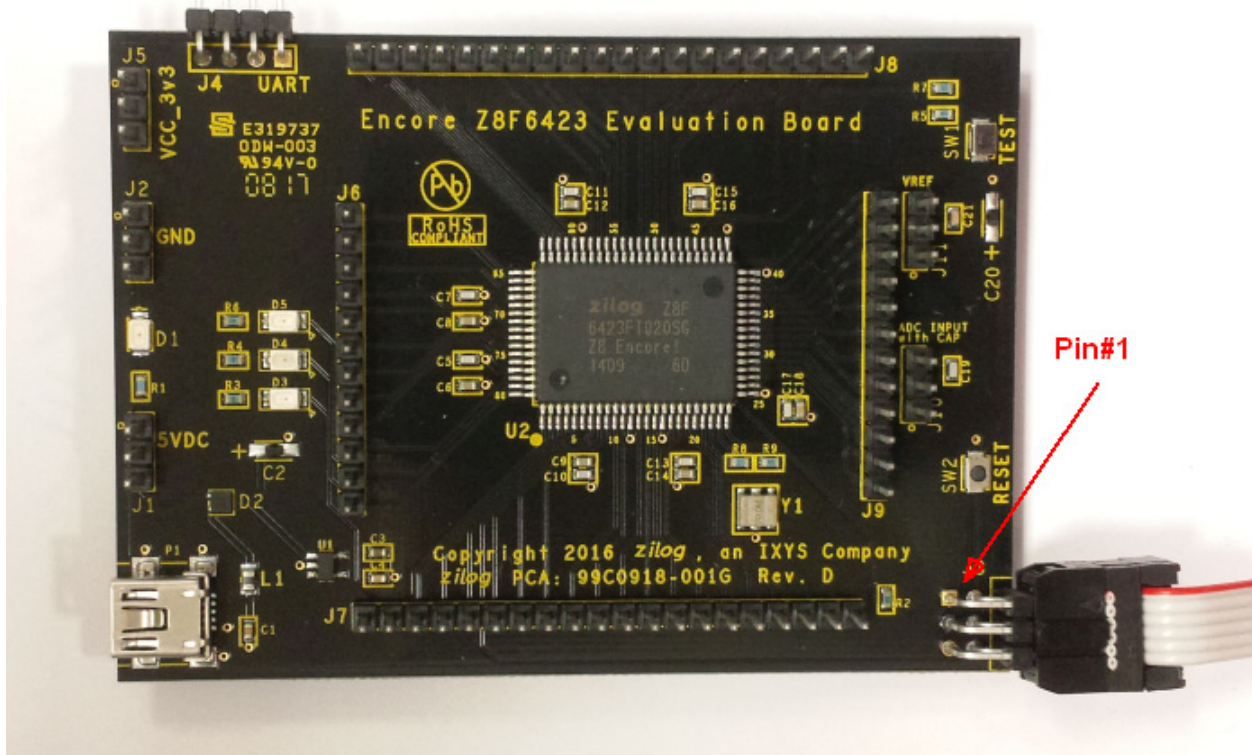

Figure 3. Debug Connector J3
2. Connect the other end of the ribbon cable to Debug Connector J3 on the Development Board. Ensure that Pin 1 on the ribbon cable is aligned with Pin 1 on the target connector, as highlighted in Figure 3.